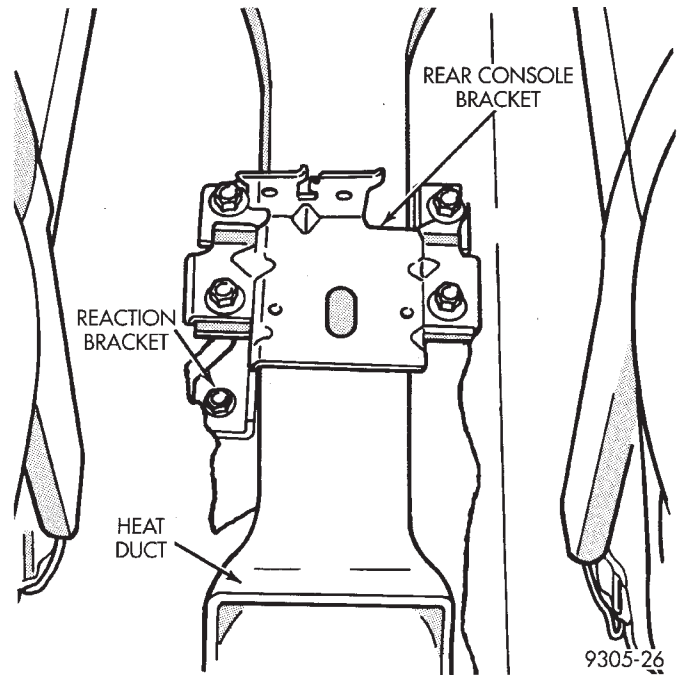

Fig. 4 Console Mounting Bracket And Heat Duct
(5) Remove upper center console cover from vehicle. Refer to group 23 Body in this service manual for required procedure to remove center console.
(6) Remove rear console mounting bracket (Fig. 4) from park brake cable reaction bracket. Remove rear passenger compartment heat duct (Fig. 4) from vehicle, for access to park brake cables.